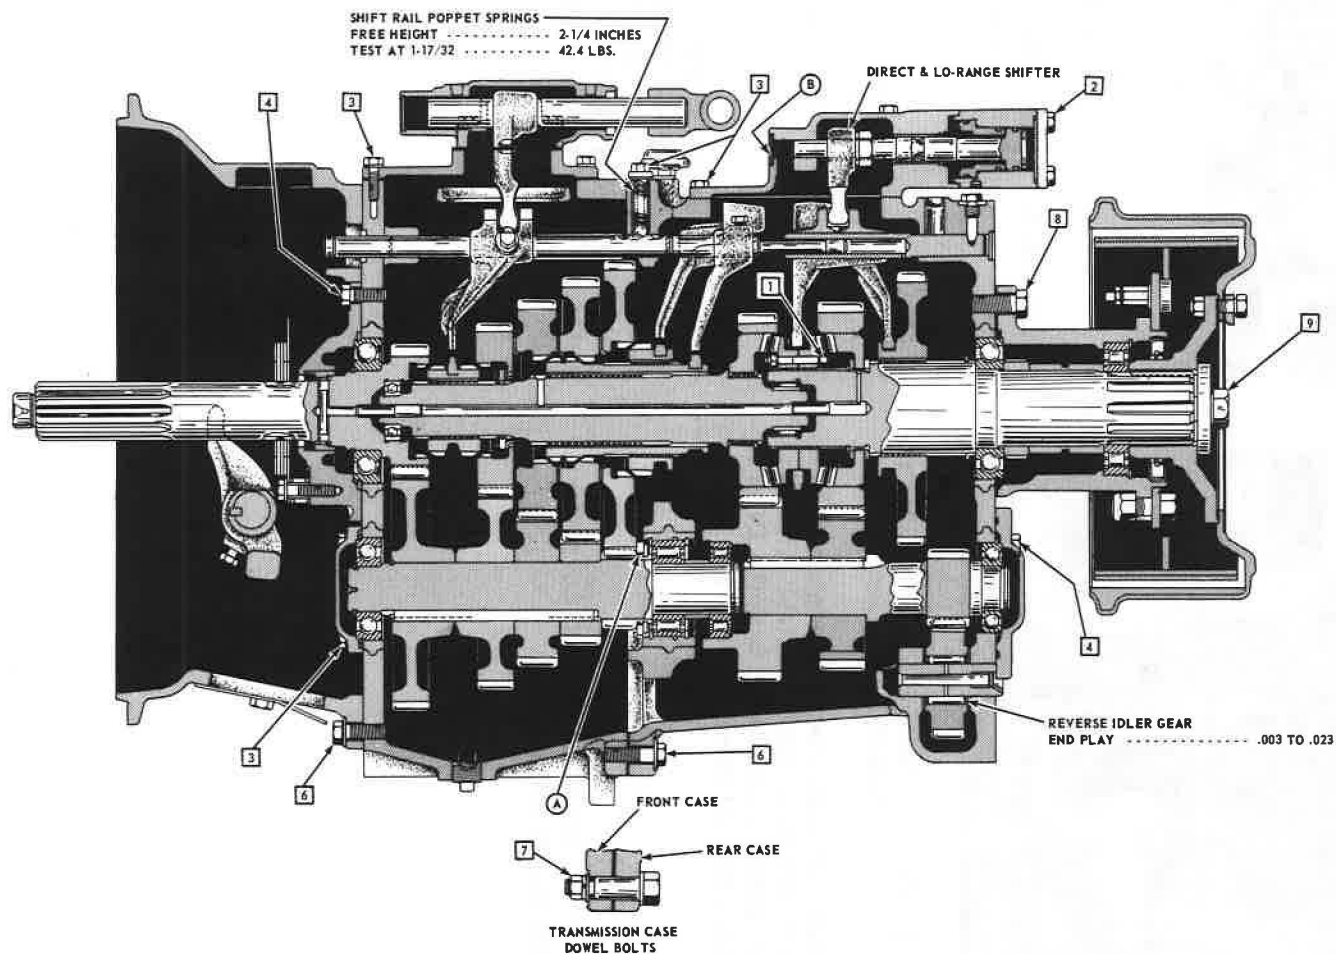

Figure 5-661. Installing Air Shift Cover Assembly
13. Install air shift cover assembly on case engaging Direct/Lo-shift control lever and reverse shift control lever with the Direct/Lo-range fork and reverse fork. See Figure 5-661.